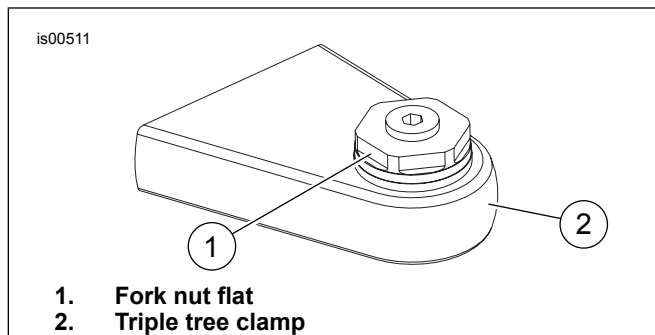

Figure 1. Fork Nut
2. See Figure 1. Set screws must tighten against a flat (1) of fork nut as shown. Tighten.